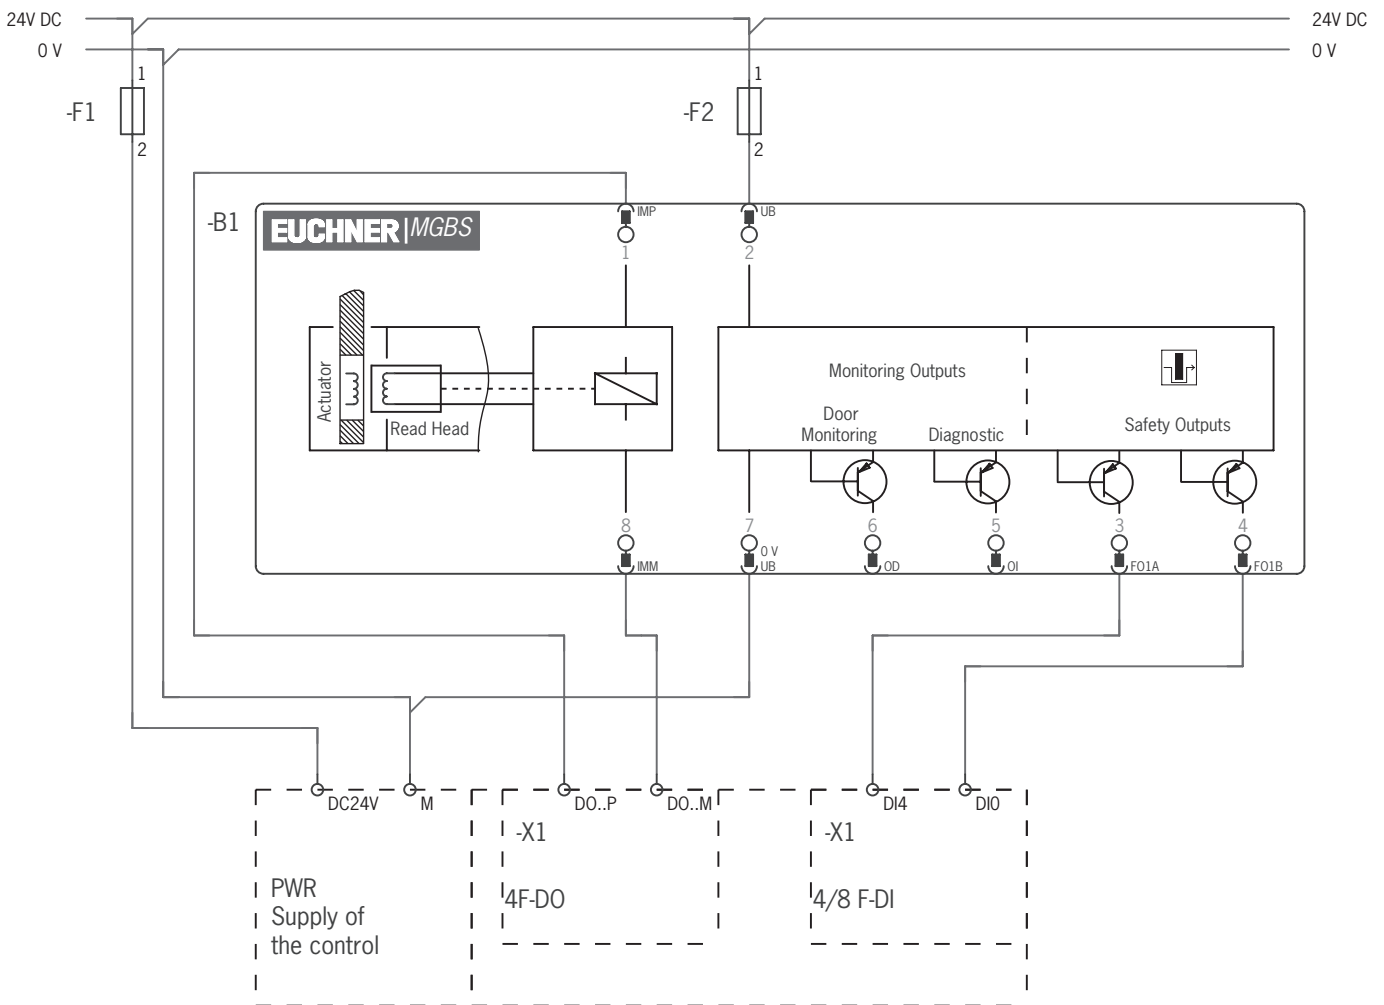

Fig. 5: Connection example for the connection to ET200
- For dual-channel control of the solenoid voltage by safe outputs of a control system, the following points must be observed (see also Fig. 5 on page 26):